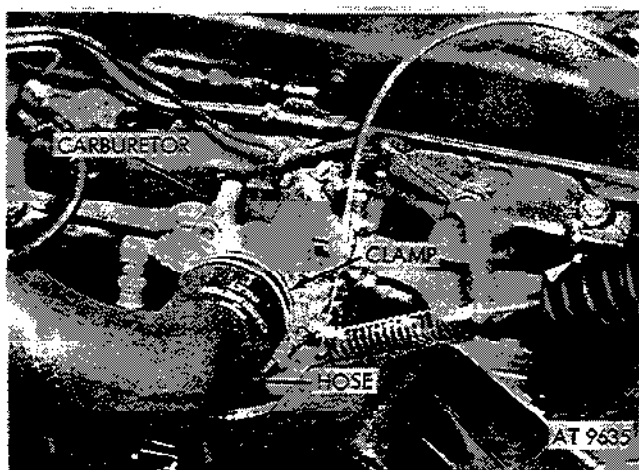

Figure 2-103. Disconnect carburetor hose.
(1) Loosen clamp screw to loosen air intake hose clamp. Pull hose away from carburetor (fig. 2-103).
c. *Adjustment.* Refer to figures 2-103 and 2-105 and proceed as follows:
(1) Remove air cleaner hose at carburetor to view the choke control plate when making adjustment.
(2) Loosen screw at the choke control cable stop at carburetor.
(3) Set choke control knob $\frac{1}{16}$ inch out from instrument panel.
(4) Adjust choke control cable so the choke control plate in the carburetor is in fully open position.
(5) Secure cable and install air cleaner hose.